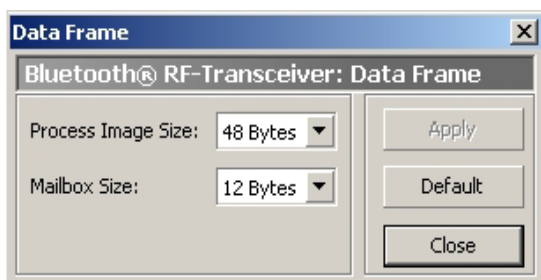

Figure 50: Data Frame
6. Enter (if not already set) a process image size of 48 bytes and a mailbox size of 12 bytes (see Figure 50).